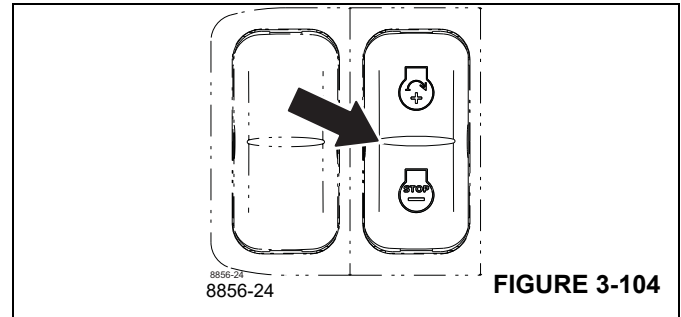

FIGURE 3-104
2. Press and hold the top of the increment/decrement switch (Figure 3-104).
Press up once and release (Figure 3-104):	Engine starts, idling speed is normal